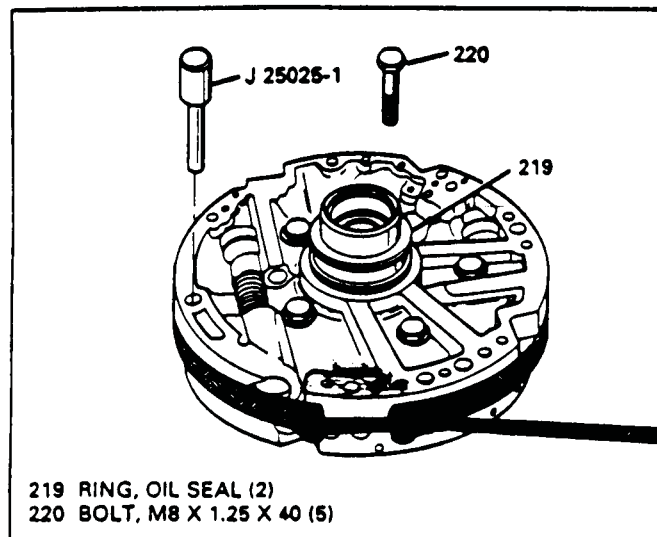

Figure 105
9. Insert oil pump alignment tool into the oil pump assembly, as shown in Figure 105.
10. Install the J-21368 alignment band as shown in Figure 105, and tighten the alignment band.